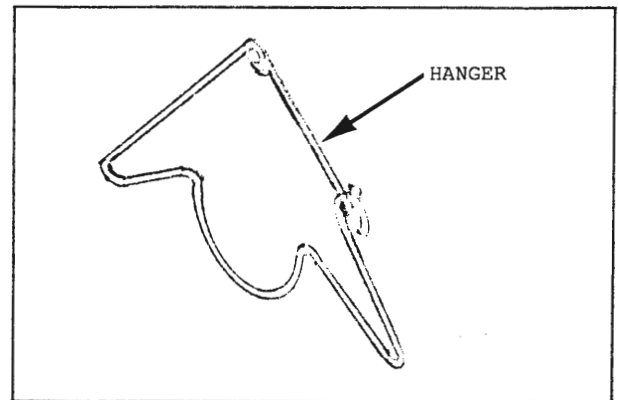
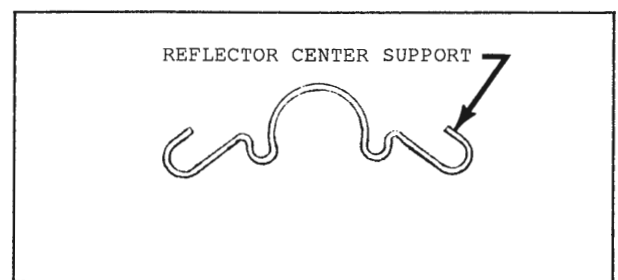

Figure 2-5
Figure 2-6
1. Each heater comes equipped with the necessary hangers (Figure 2-5) for heater hanging. The DTHS20 requires three hangers, the DTHS40 requires five hangers, and the DTHS60 requires seven hangers. Each heater also comes with one reflector center support (Figure 2-6) and one DTHS Installation Kit.